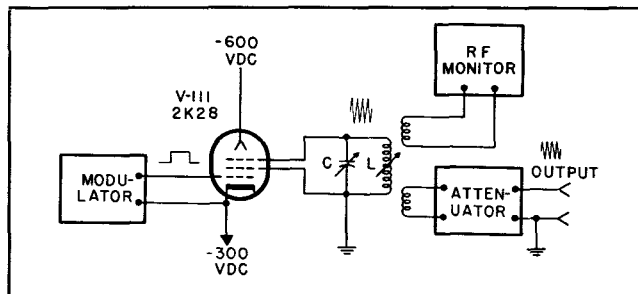
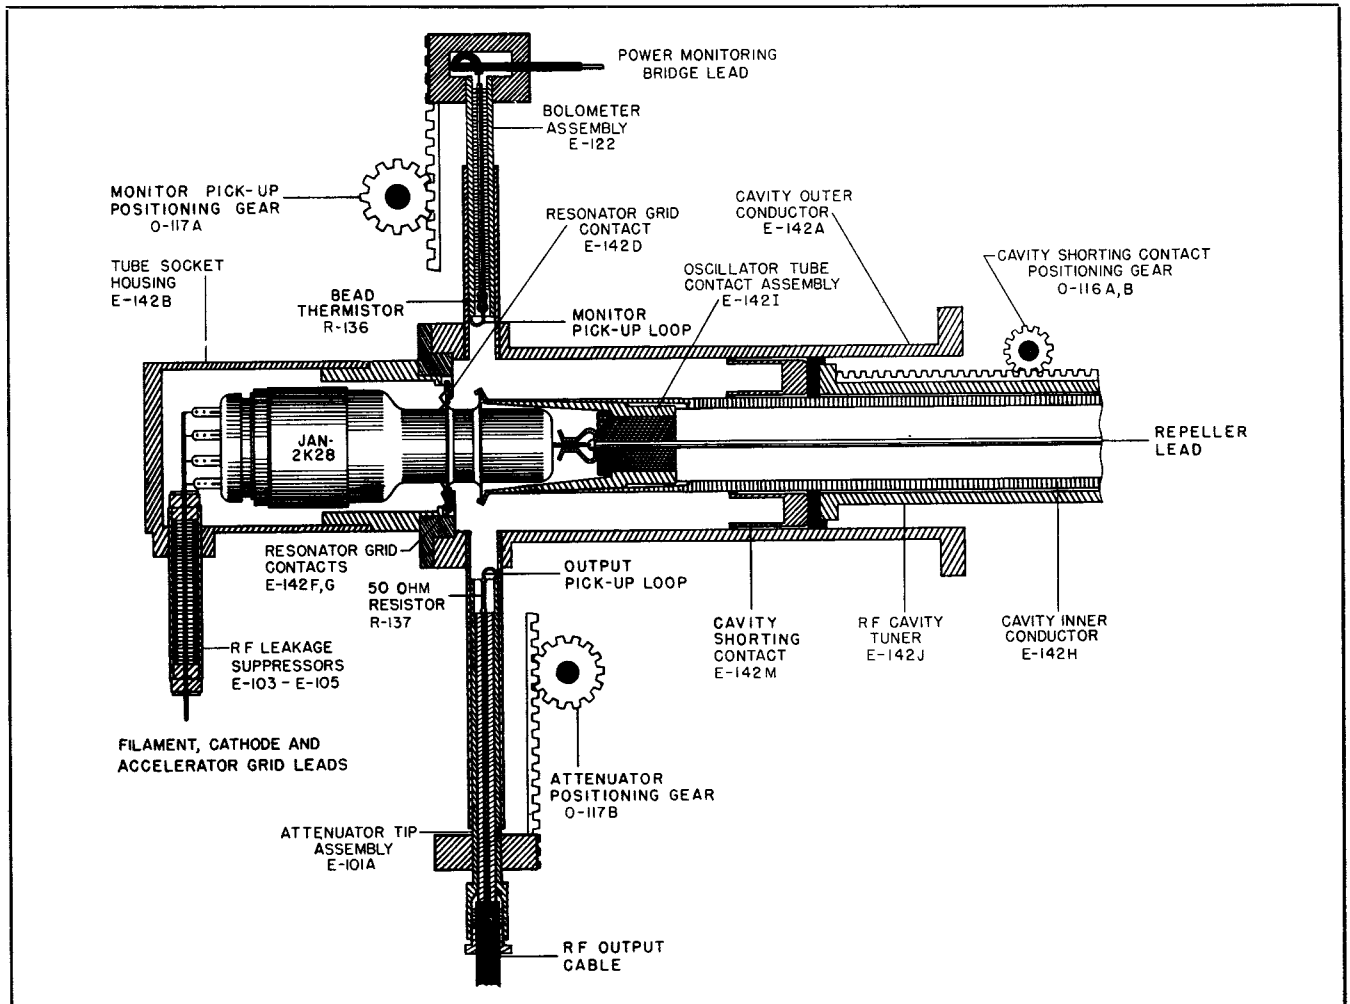

Figure 3-2. Equivalent Oscillator Circuit
Figure 3-3. Cutaway View of Oscillator
the external load. The oscillator circuit is that of a velocity-modulation tube operating with an external resonant cavity. The tube used is a type JAN-2K28 reflex klystron, the name "reflex" being derived from the fact that a single set of grids performs the dual function of bunching and then catching the electron stream. An equivalent circuit of the oscillator is shown schematically in figure 3-2.
The resonant circuit L and C in figure 3-2 connects to two tube electrodes known as resonator grids. Physically, the resonator grids of the tube are separated from the cathode by an accelerator grid which accelerates the electrons drawn from the cathode. The repeller electrode on the
Assuming that the circuit of figure 3-2 is oscillating, its operation can be considered as follows: the tank circuit and resonator grids are highly positive with respect to the cathode and the accelerator grid has been driven positive with respect to the cathode by the pulse from the Modulator so that electrons are drawn towards the positive resonator grids.
A cut-away view of the actual oscillator circuit used in the signal generator is shown in figure 3-3. The tuned circuit shown in the equivalent oscillator circuit of figure 3-2 is a resonant cavity which is tuned by changing the position of the cavity shorting contact. The output power is coupled to the external load by means of a pick-up loop. An identical loop is provided to supply power to the output monitor so that the amplitude of oscillation and thus the power applied to the output attenuator can be known at all times.
a. RF OUTPUT.—The rf power output from the oscillator is obtained from the resonant cavity by means of a pick-up loop located in a small section of waveguide which opens into the resonant cavity (figure 3-3). The cross-sectional area of the waveguide is small enough so that energy is usually considered not to be propagated directly down the waveguide; that is, the waveguide is smaller than the cut-off size of waveguide for these frequencies. However, a small amount of energy is propagated down the guide and this energy decreases exponentially as the length of the guide is traversed. Since the output power in decibels is proportional to the square of the voltage obtained, it is possible to move the pick-up in the waveguide by means of a gear system and to calibrate the gear system linearly in decibels of output power. This has been done in the TS-403/U, providing a directly calibrated power output system.
b. RF MONITOR.—In order that the power applied to the external load can be known, it is necessary that the current or voltage applied to the load (as well as the load itself) be known. In the TS-403/U, the fields within the cavity are monitored by a thermistor bridge circuit. A pick-up loop and piston type attenuator (figure 3-3) similar to the output system are used to feed a small amount of power from the resonant cavity to a bead thermistor R-136 which is part of the bridge circuit. The bridge is balanced for dc conditions and when the rf power from the resonant cavity is applied to the circuit, the bridge becomes unbalanced, the amount of unbalance being indicated by a dc microammeter connected across the bridge.